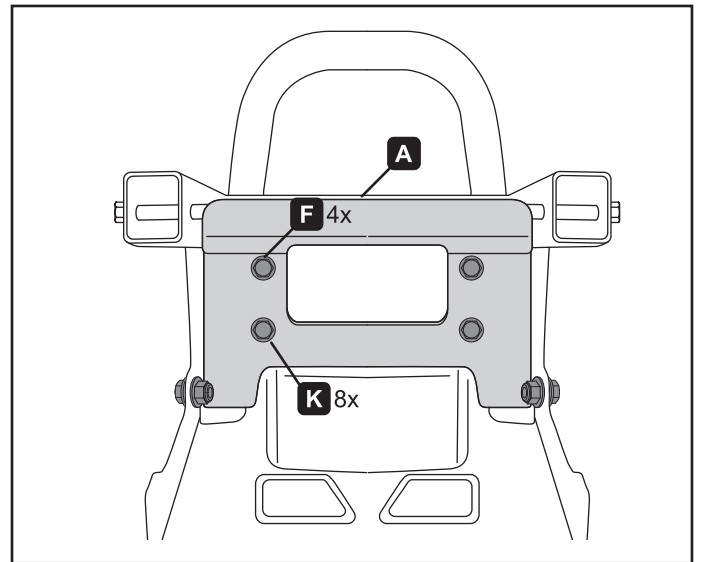

Figure 3.
4. Fasten the winch mount (A) to the fairlead mount (B) with bolts (F), washers (K) and lock nuts (I). See figure 3.